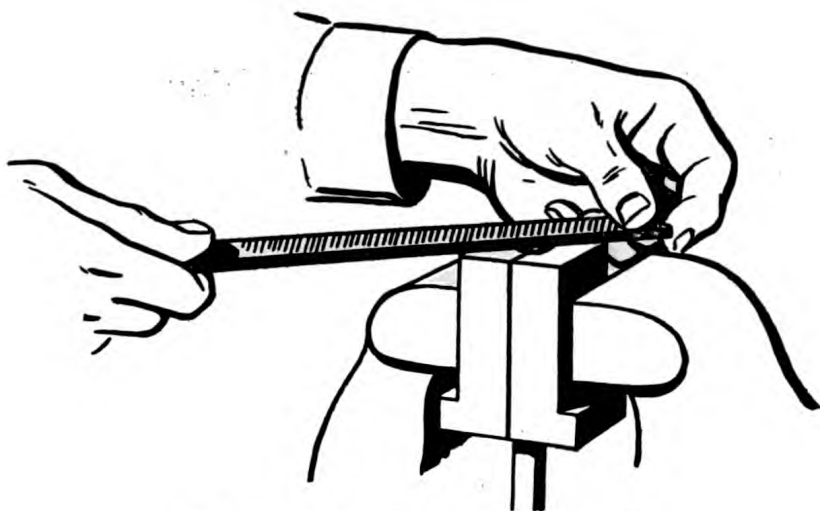
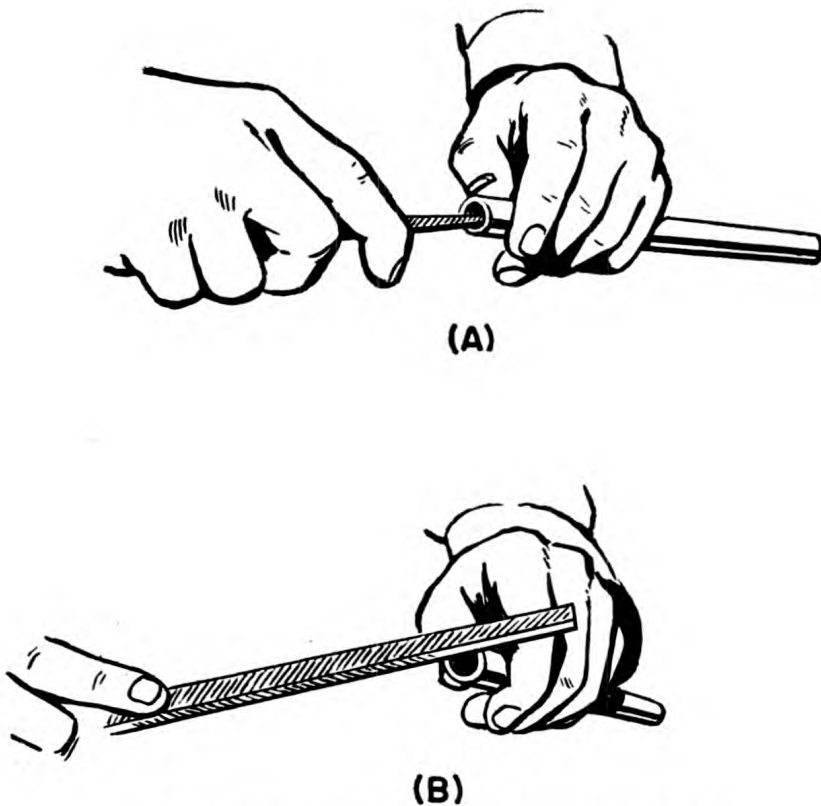

Figure 202.—Filing tubing ends.
Figure 203.—Burring inside and outside.
After the end of the cut tubing has been FILED SQUARE as in figure 202, it must be burred inside and out, otherwise you will have a leaky joint or a split tube. Inside burrs can be removed with a machinist's scraper or a pocket knife as in (A) of figure 203. Outside burrs can be removed easily with a flat file as in (B). Don't round the corners excessively.